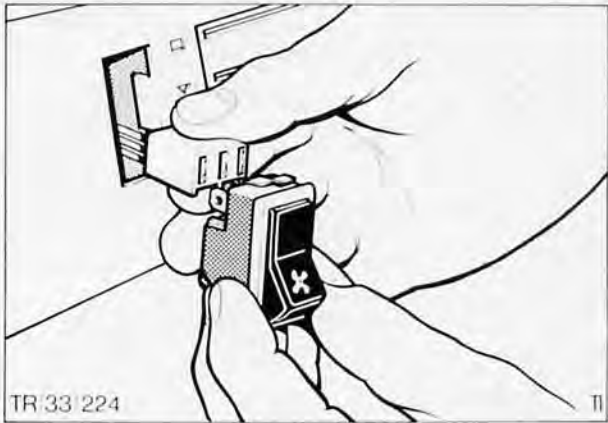

Fig. 88. Align switch to multi-plug and connect
5. Connect loom multi-plug to rear of switch, Fig. 88.